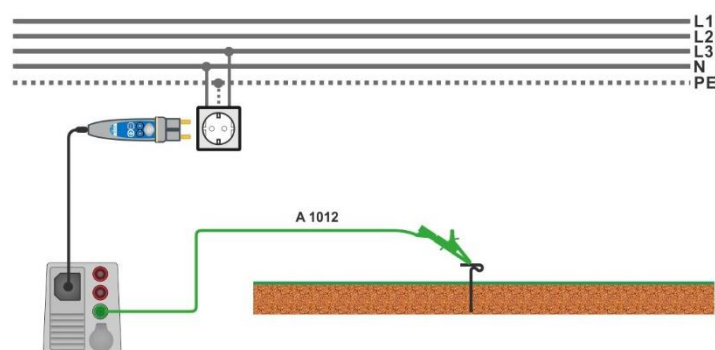

Figure 7.41: Connection for Uc(P) measurement
- Connect test lead P/S to external earthed point (optional), see **Figure 7.41**.